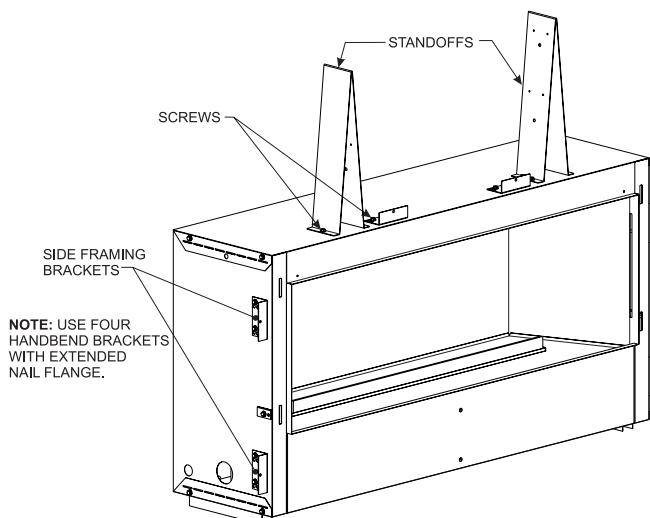

Figure 2
4. Bend the short tabs on each end in opposite directions. Secure the standoffs to the fireplace top with three screws each from the hardware bag. There are pilot holes located in the top of the fireplace for each stand-off. See Figure 2
6. Locate framing bracket package. Install six framing brackets with two 10 x 1/2 screws (each). See Figures 2 and 3. Use the four hand bend framing brackets on the fireplace sides which have longer nail flanges. See Figure 2.